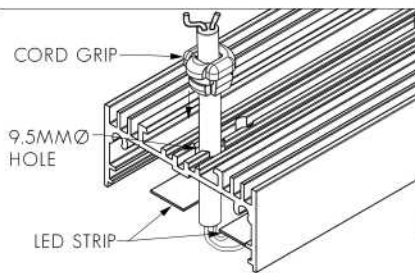

FIG. 3 - MAKE ELECTRICAL CONNECTION
2. MAKE ELECTRICAL CONNECTION: CONNECT LED STRIP TAILS TO LED DRIVER (SEE FIG. 3 ON FOLLOWING PAGE IF SUPPLIED WITH MALE/FEMALE CONNECTORS).